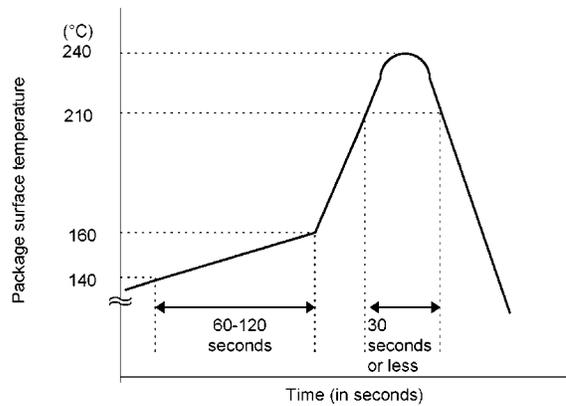

Figure 3.5.3 Sample temperature profile for infrared or hot air reflow
- (c) Refer to Figure 3.5.3 for an example of a good temperature profile for infrared or hot air reflow.